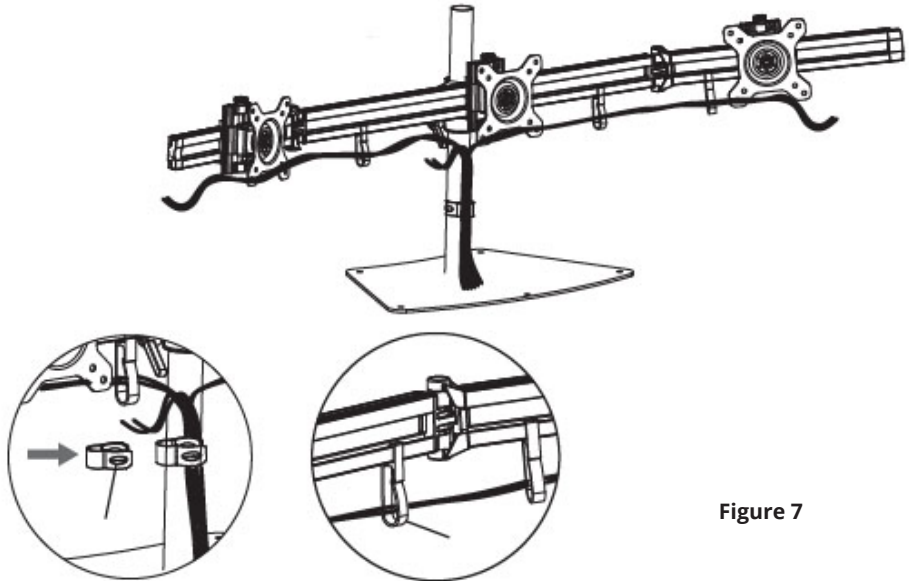

Figure 7
- 1. Route the cables through the wire clips and down the tube support, see **Figure 7**.